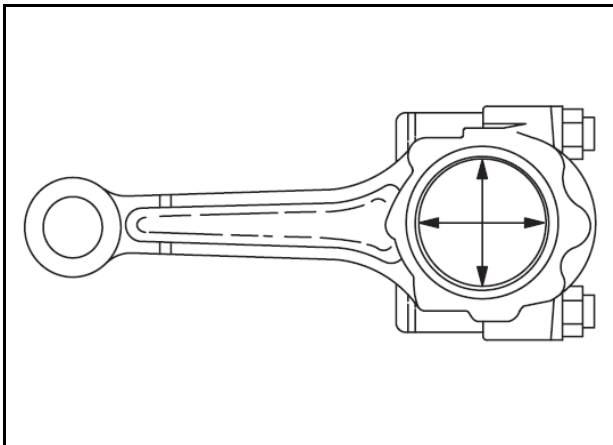

Fig. 8 - Checking Crankpin Bearing End
3. Check crankpin bearing end of connecting rod for out of round, Fig. 8.